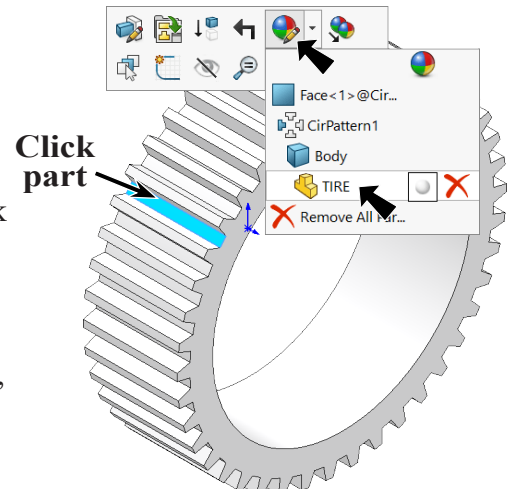

Fig. 20
Step 1. Click part, click **Appearance Callout**  on the context toolbar and click **TIRE** , Fig. 20.